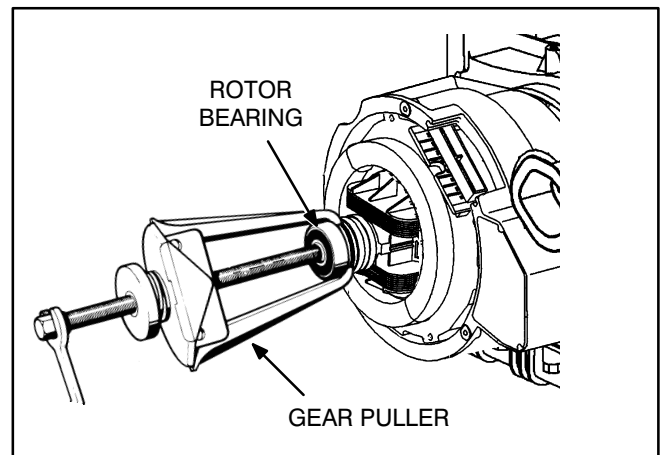

FIGURE 9-12. ROTOR BEARING REMOVAL
2. Use a small puller with grips that will fit between the bearing and the collector ring assembly (Figure 9-12) or use an arbor press to remove the bearing. Cover the end of the rotor shaft with a steel plate to prevent deformation of the shaft during removal.